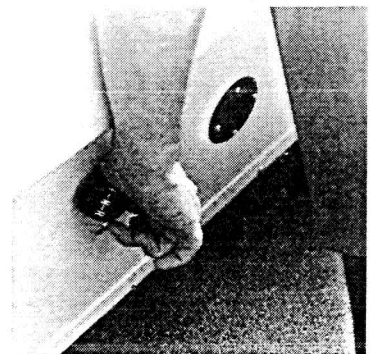

Figure 3
Forward-Reverse Control - The forward-reverse shift lever is located below and to the right of the driver's right knee on the seat support panel (See Figure 3). The lever has three (3) distinct positions: F (forward), N (neutral), and R (reverse). Rotate the lever toward the driver (F) to run the car in forward and toward the passenger (R) to run the car in reverse. The car operates at half speed in reverse.